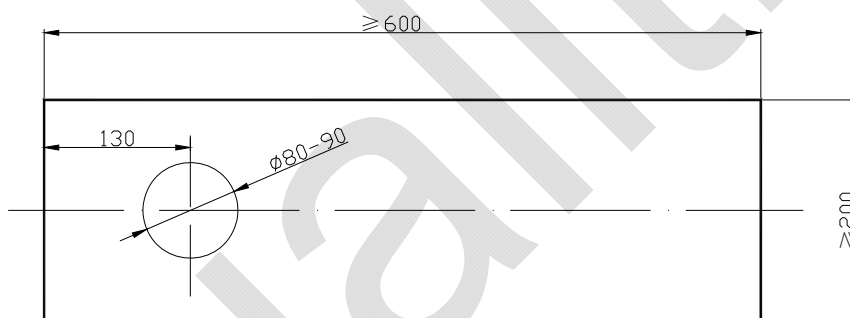

Figure 2 Workbench size chart
3.1.4 Installed on a stable workbench (the outer dimensions are for reference only) and adjusted to the horizontal level, the horizontality should not exceed 0.2/1000, and a hole of $\phi 80-90$ is opened on the appropriate seat on the workbench. For pole lifting (Figure 2).